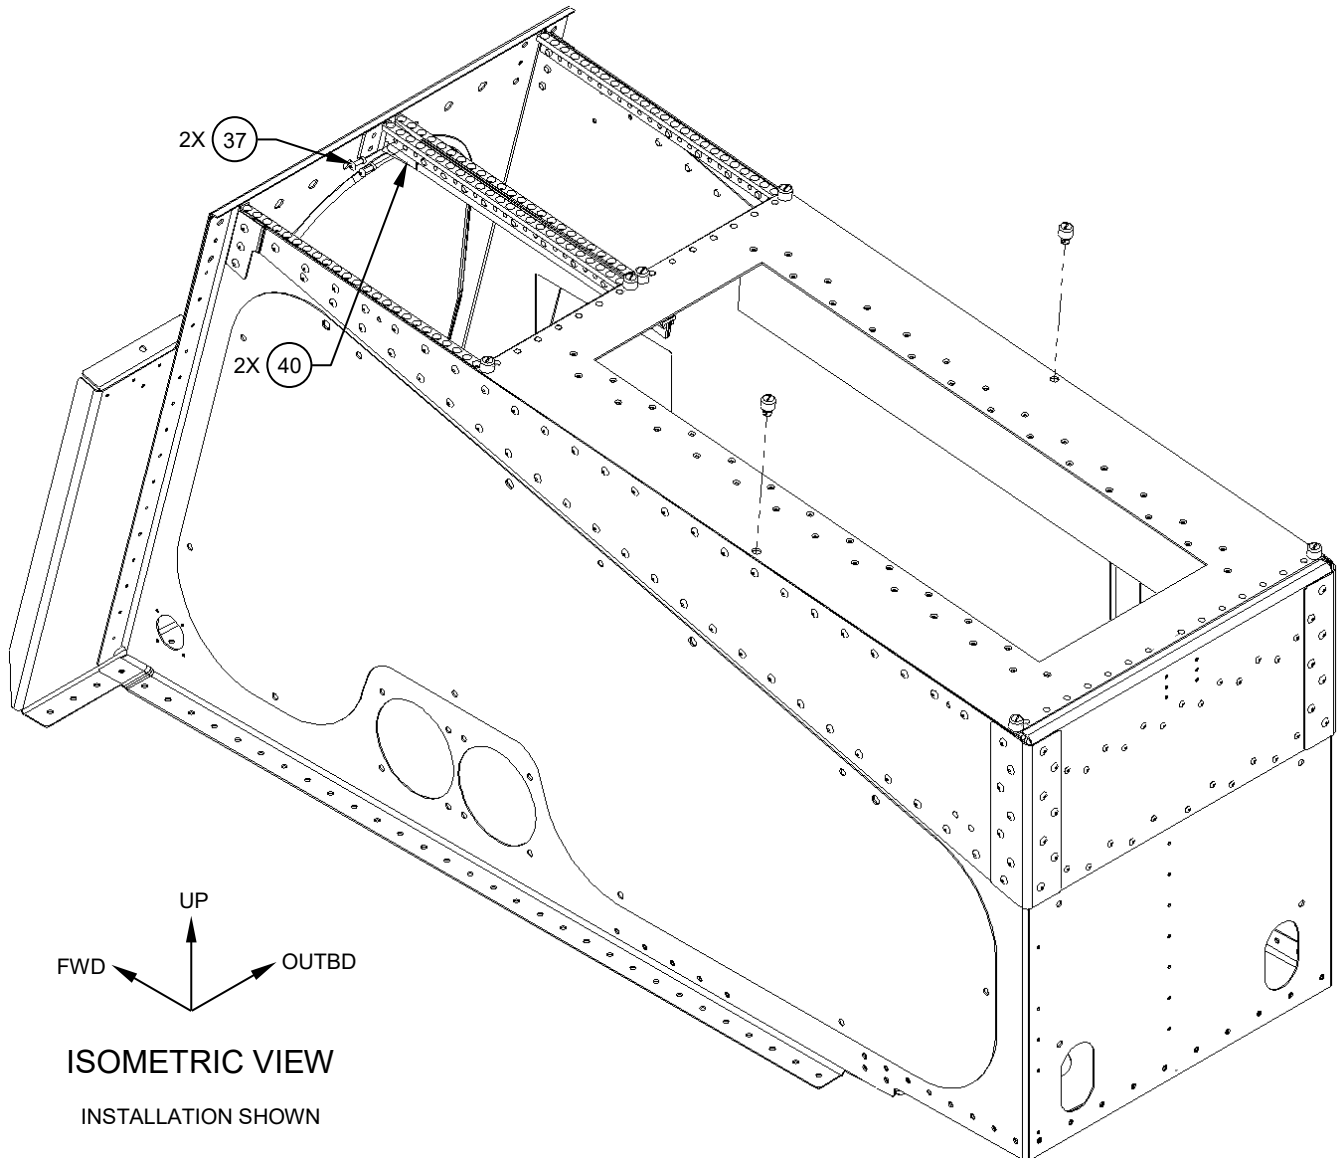

Figure 37
6.4.10. Permanently install the modified Panel Mount Plate, Assy, (Item 25), and the modified Center Dzus Rail, Assy, (Item 12) with the 2X Filler, Details, (Items 40), on to the Center Pedestal Riser, using 2x Rivet, Solid Universal Head, (Item 37). Install at least one more Fastener, Panel, Stud, ¼ Turn, (Item 45) on each side. See Figure 37.